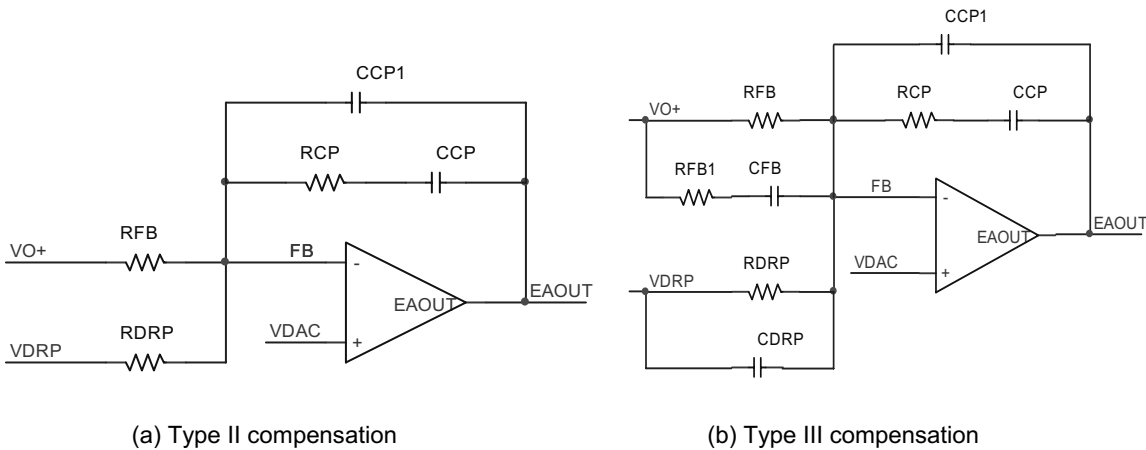

Figure 17. Voltage loop compensation network
Resistors RFB and RDRP are chosen according to Equations (16) and (17), and the selection of compensation types depends on the output capacitors used in the converter. For the applications using Electrolytic, Polymer or AL-Polymer capacitors and running at lower frequency, type II compensation shown in Figure 17(a) is usually enough. While for the applications using only ceramic capacitors and running at higher frequency, type III compensation shown in Figure 17(b) is preferred.
For applications where AVP is not required, the compensation is the same as for the regular voltage mode control. For converter using Polymer, AL-Polymer, and ceramic capacitors, which have much higher ESR zero frequency, type III compensation is required as shown in Figure 17(b) with RDRP and CDRP removed.